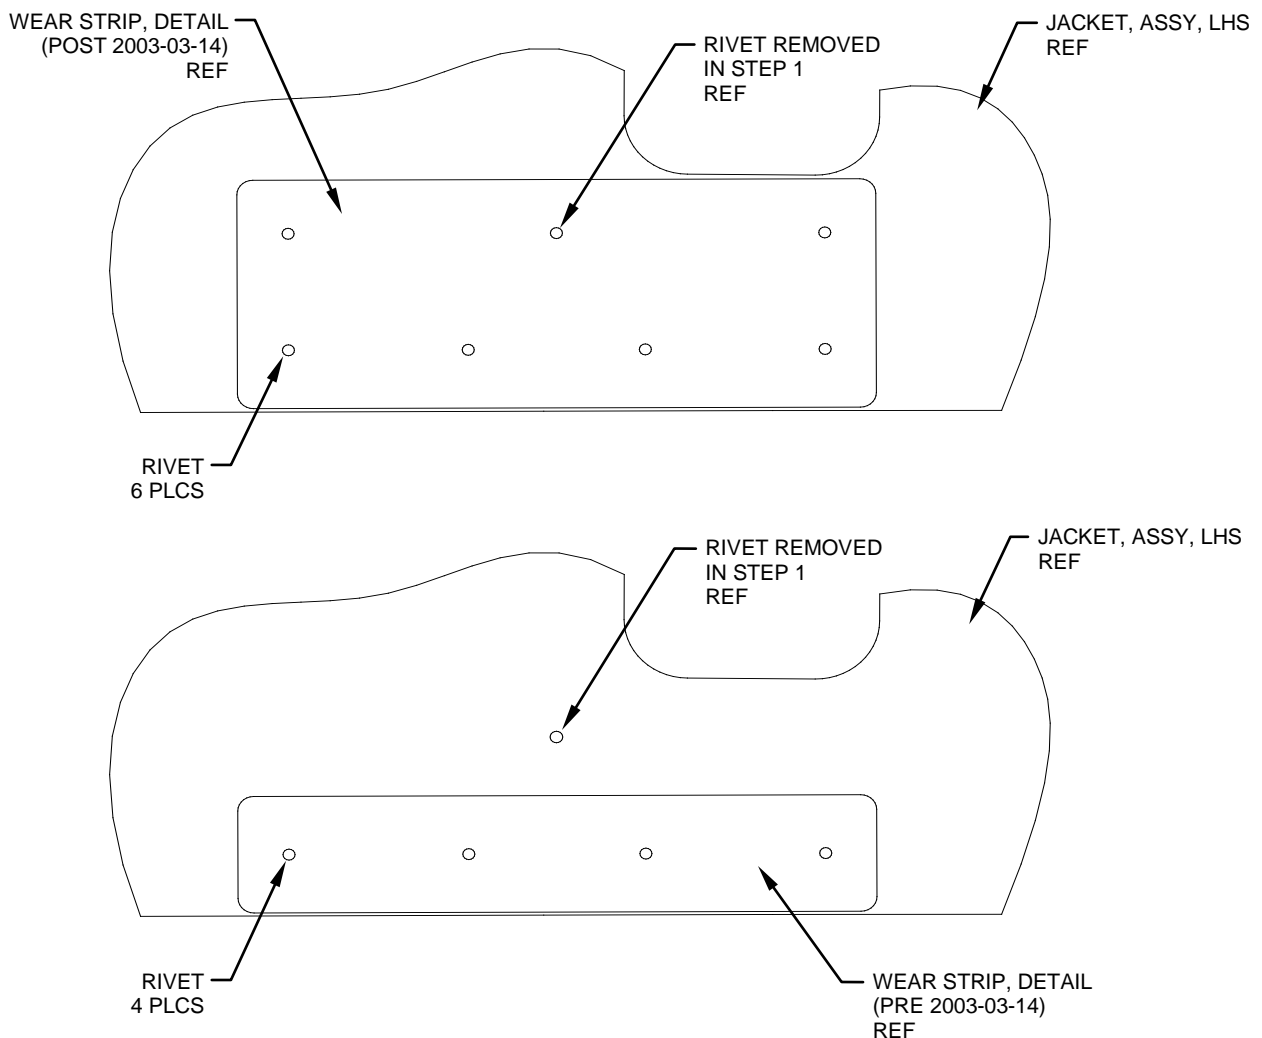

Figure 2
2. Remove the rivets retaining the existing Wear Strip, Detail as shown. Remove and disregard the existing Wear Strip, Detail. Reference Figure 2.